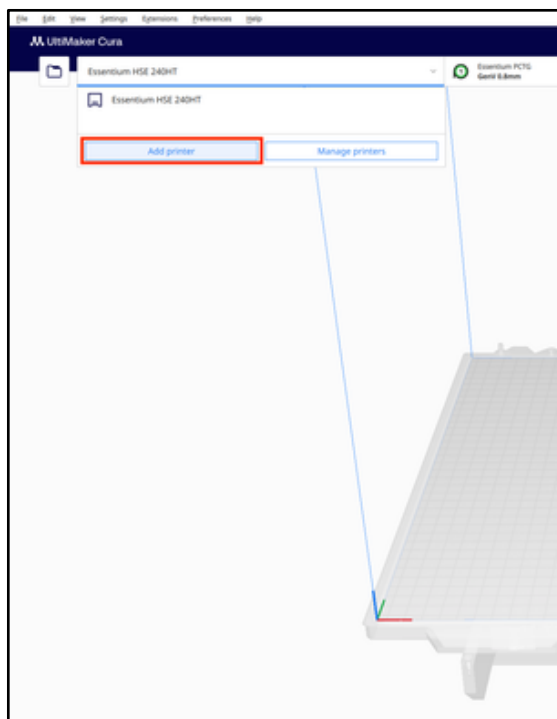

Figure 7: Adding Additional Printers
13. Figure 7 shows where additional machines can be added at the upper-left corner of the screen.